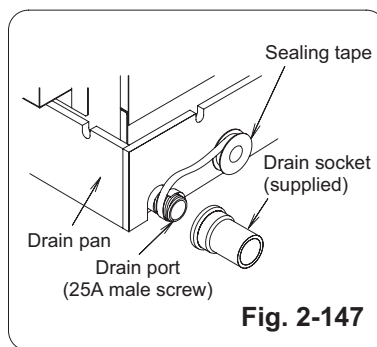

Fig. 2-147
- (2) If connecting a drain socket (supplied) to the threaded drain port, first wrap the drain port threads with sealing tape, then connect the joint. (Fig. 2-147)